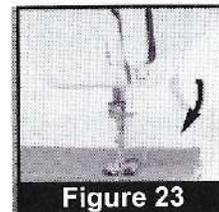

Figure 23
3. Lower the presser foot onto the fabric. (Figure 23) Select a stitch pattern. Make sure the power switch is ON. Lower the needle into the fabric. Press down on the foot control and begin sewing. The sewing speed depends on the pressure applied to the paddle: the harder you press, the faster the needle moves. Guide the fabric gently with your hands.